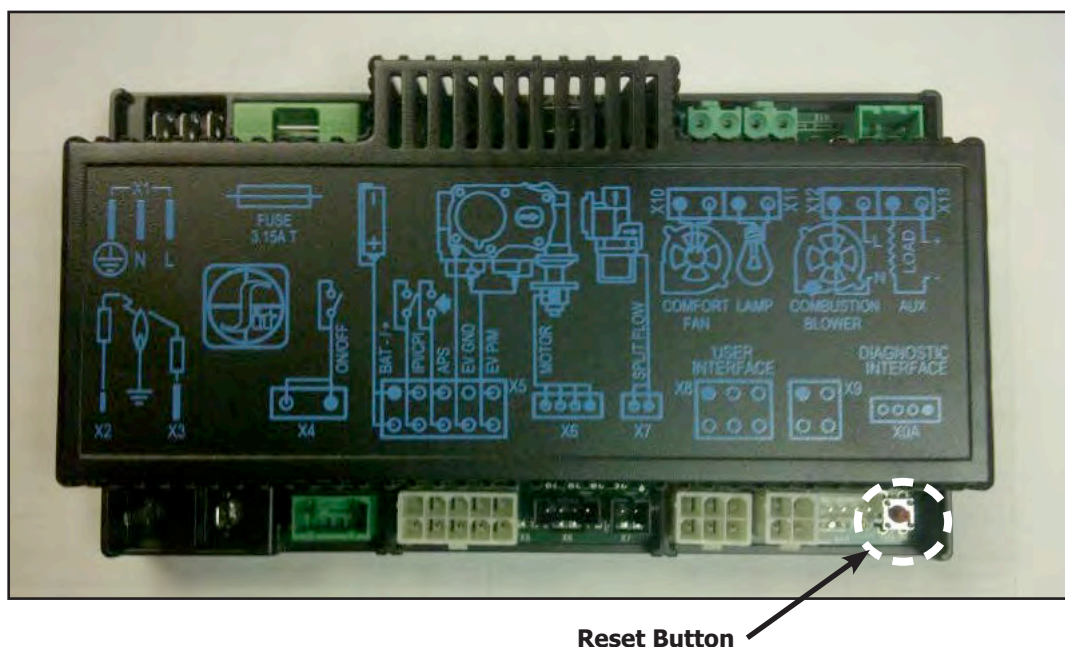

Figure 6: Integrated Fireplace Controller
The Proflame 2 IFC (Figure 6) connects directly to the gas valve, stepper motor, pilot, convection fans (optional) and light kit (optional) with a wiring harness. The IFC is mainly powered by 120 VAC but can also run off a battery backup four (4) AA type batteries for shorter periods of time. The IFC accepts commands via radio frequency from the Transmitter to operate the appliance in accordance with the particular Proflame 2 system configuration. The IFC has a red reset button at the front right corner that is used to synchronize the Transmitter when using the for the first time, or after the batteries have been replaced.
Install the four (4) AA batteries into the IFC battery holder. Note the polarity of the battery and insert into the battery bay as indicated on the body of the battery holder. Press the reset button on the IFC marked "SW1" (see Figure 6).